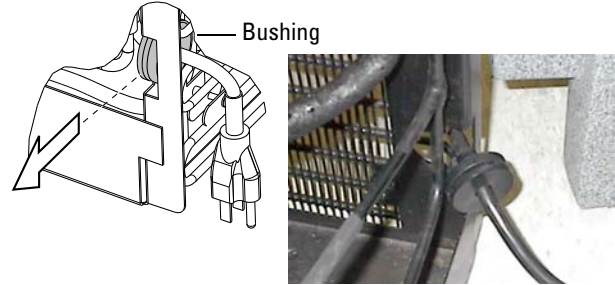

Figure 5: Remove power cord
- b. Slide the bushing sideways away from the refrigeration module until it is free (Figure 5). Avoid bending the refrigeration tubing.